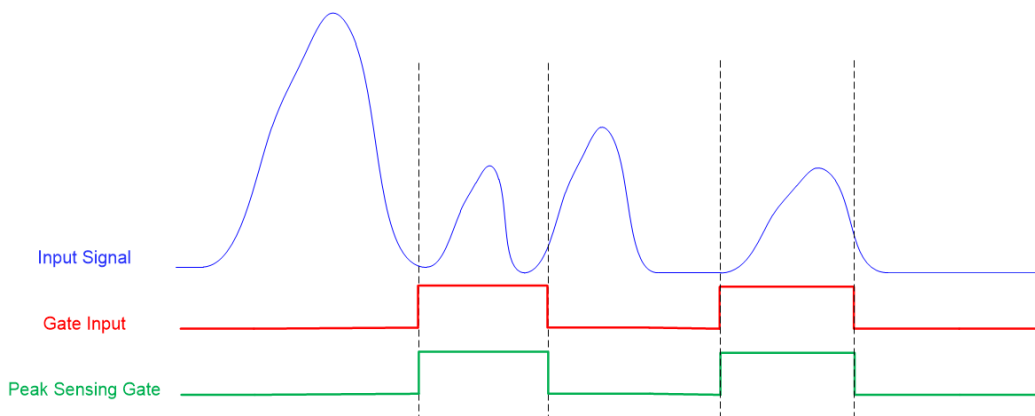

Figure 8.2: Gate mode acquisition: the gate width is equal to the input gate width
- **gate mode** (level sensitive): the gate lasts for the duration of the GATE input signal (see **Figure 8.2**)